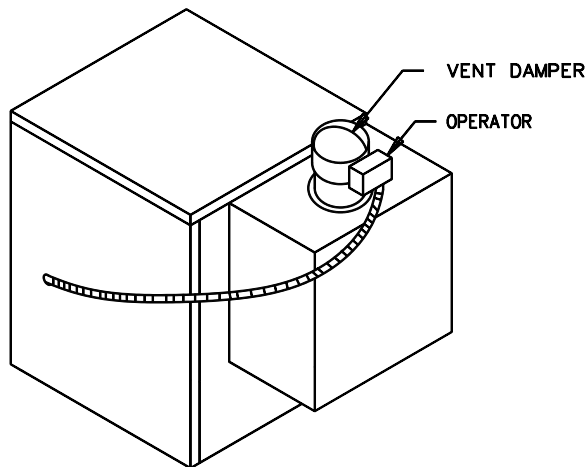

Figure 1. Vertical Installation of Vent Damper on Sentry "S" Boilers
3. Select a proper, convenient location for vent damper. Vent damper may be installed vertical or horizontal on all models (see figures 1 and 2).
- B. 1.** This device must be installed after the boiler draft hood (between the draft hood outlet and the connector to the outdoor chimney or vent) as close to the draft hood as practicable, and without modification of the draft hood or the vent damper. (See figures 1, 2 and 3.)